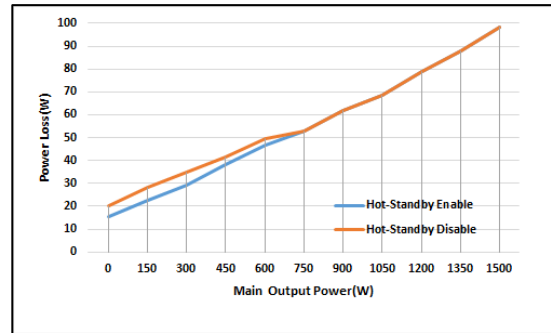

Figure 8. PSU power losses with/without hot-standby mode
**Figure 8** shows the achievable power loss savings when using the hot-standby mode operation. A total power loss reduction of 5 W is achievable.